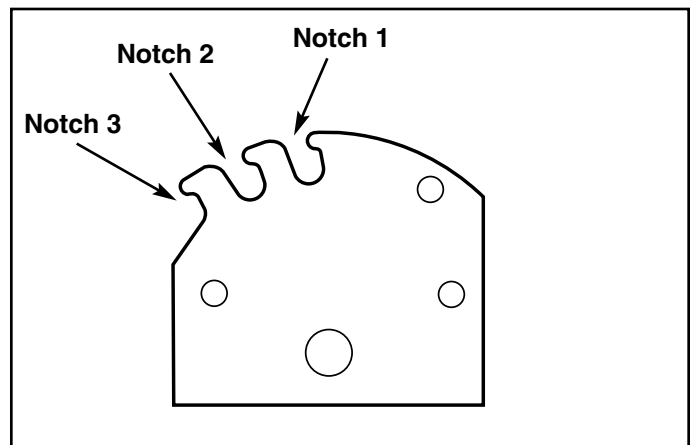

Figure 7. Lift Lever Quadrant - Side View
The lift lever can be placed in one of three notches and is held in position by the lever latch. (see Figure 7). When the lever latch is placed in notch 1 the lift lever should be applying downward pressure on the attachment. In position 2, the “float” position, the attachment should experience negligible upward or downward pressure. Position 3 should raise the attachment approximately 6” above the ground.
1. Place the lever latch in notch 3 (see Figure 7). The snowthrower should be approximately 6” off the ground. If not, go to step 2.
2. Lower the attachment and adjust the front set collar (A, Figure 7) to achieve the correct lift height.
1. Move the lever latch from notch 2 to notch 1 (See Figure 7).